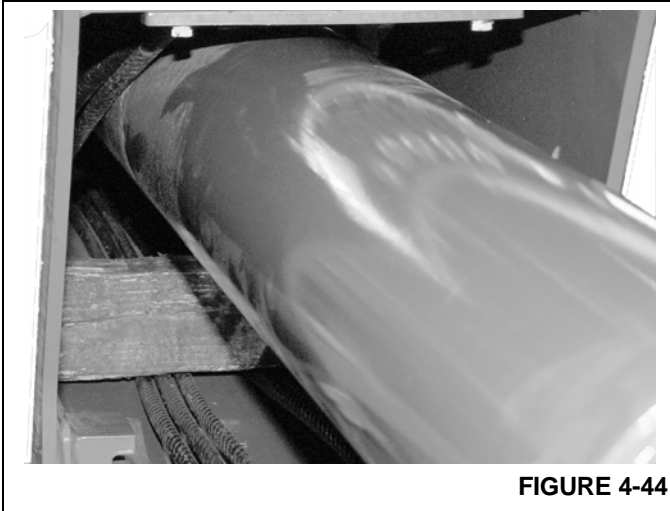

FIGURE 4-44
17. Place blocking under the rear of the Tele Cylinder to aid in assembly (Figure 4-44).